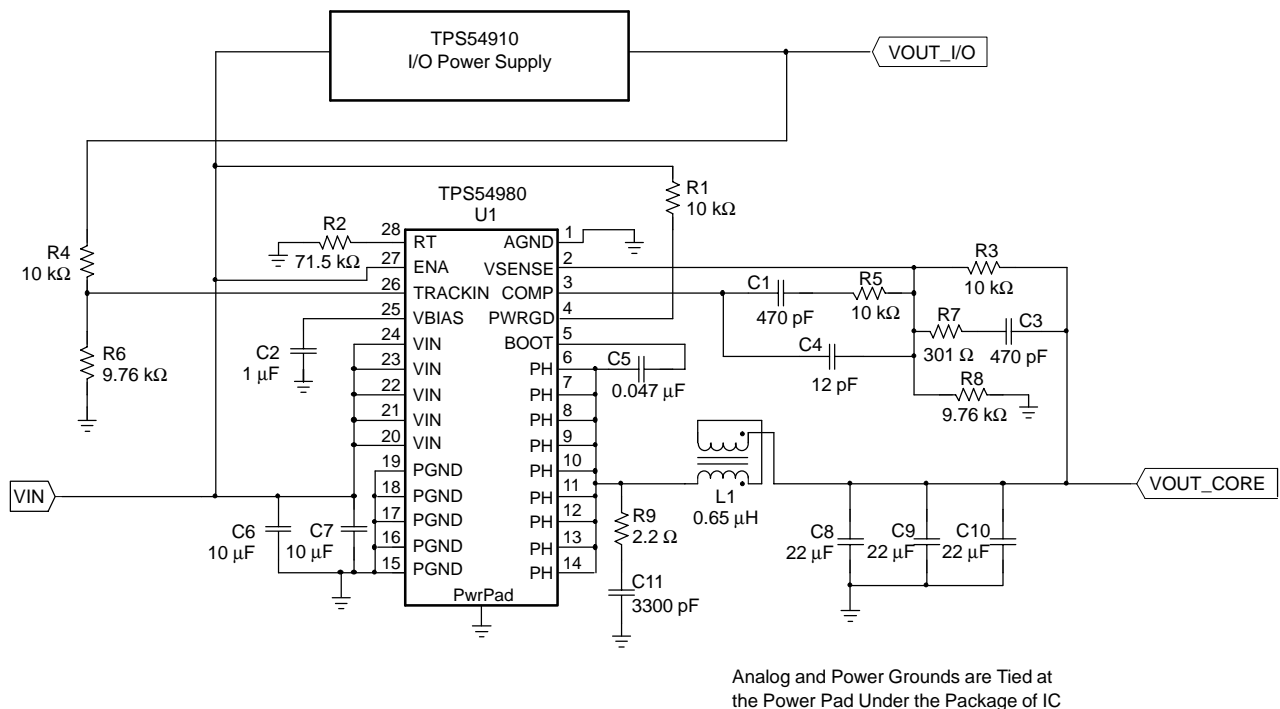

Figure 9. Application Circuit
(1) Specified by design
(2) Static resistive loads only
(3) Specified by the circuit used in Figure 9
⁽³⁾ Specified by the circuit used in Figure 9
Figure 9 shows the schematic diagram for a typical TPS54980 application. The TPS54980 (U1) can provide greater than 9 A of output current at a nominal output voltage of 1.8 V. For proper thermal performance, the exposed thermal PowerPAD underneath the integrated circuit package must be soldered to the printed-circuit